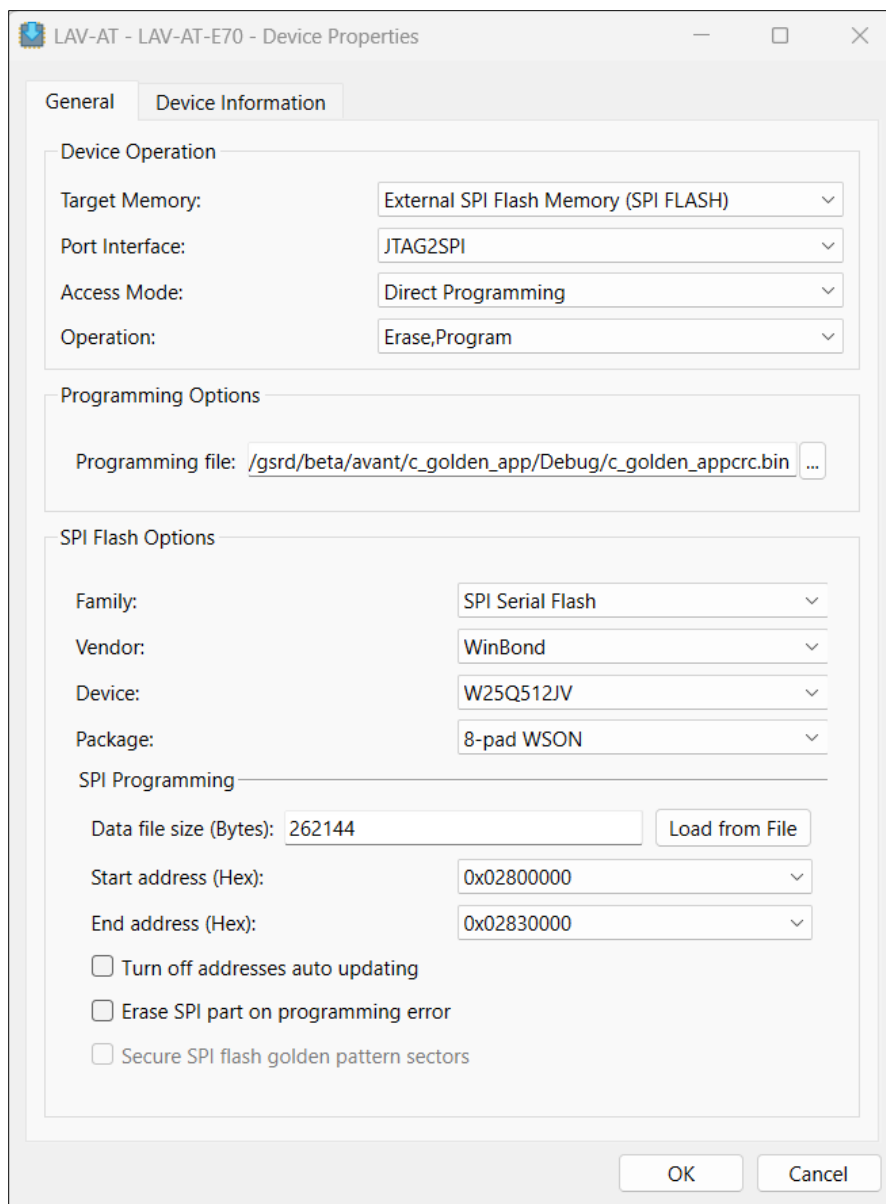

Figure 6.18. Device Properties to Program the Winbond SPI Flash
13. To program the **c_golden_apprcr.bin** file into the SPI Flash, follow the settings as shown in Figure 6.18.